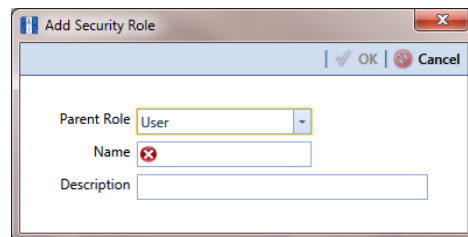

Figure 3-17. Add Security Role
- 2 Click **Add** to open the *Add Security Role* dialog box (Figure 3-17).